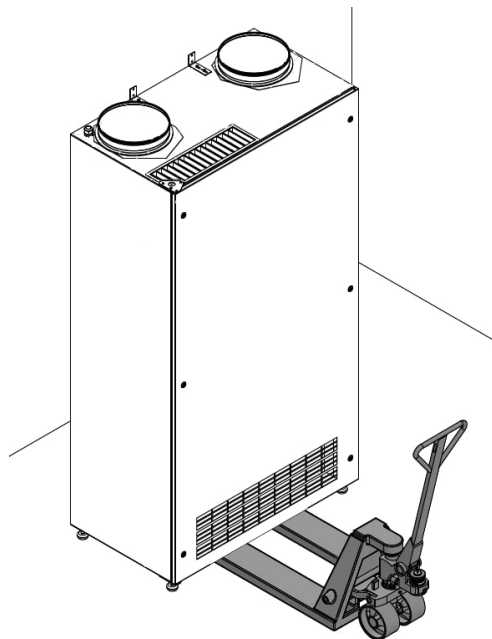

Figure 26: Move the unit into place
2. Raise the unit into an upright position and place it in its final position, as close to the wall as possible. A pallet loader can for instance be used to move the unit, see Figure 26 below.